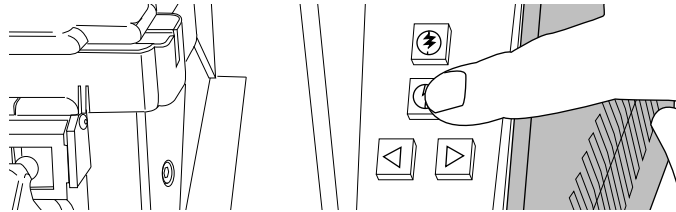

Figure 39
5.12 Press the Clean key (Figure 39). **DO NOT REPOSITION THE FIBERS AFTER THIS PRE-FUSION STEP.**